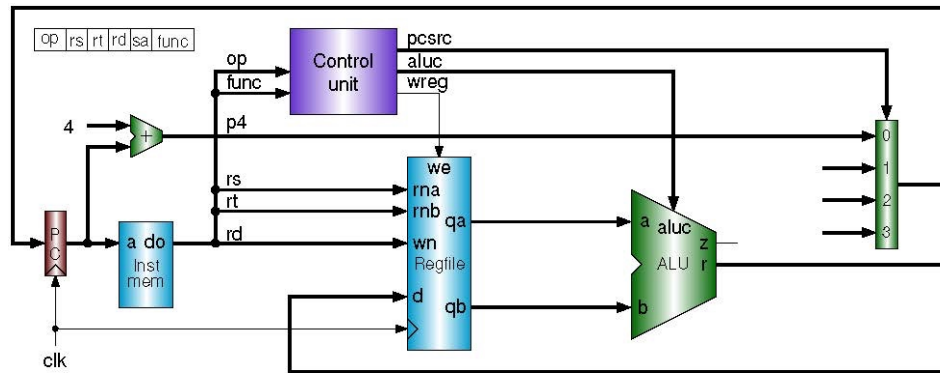
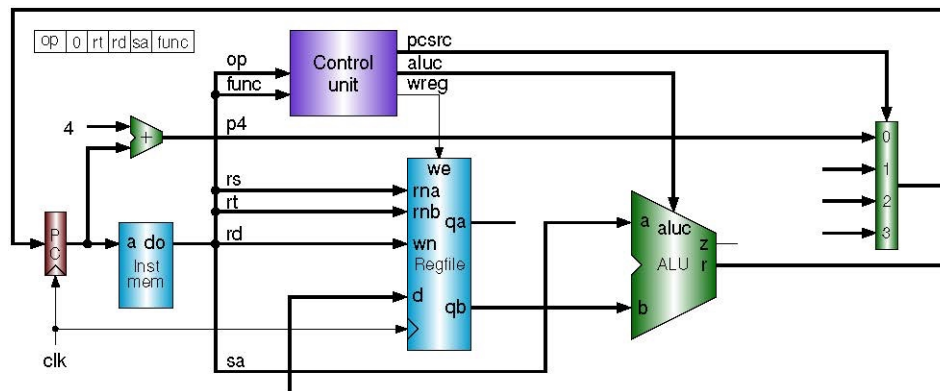
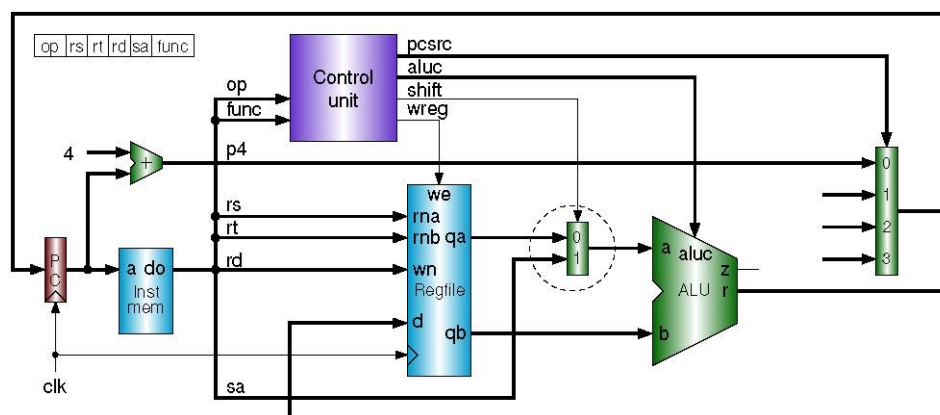

Figure 2 Block diagram for R-format arithmetic and logic instructions
Figure 3 Block diagram for R-format shift instructions
Figure 4 Block diagram for R-format using a multiplexer for ALU A-input selection
Figure 2 shows the design required for executing the R-type instructions (add, sub, and, or, xor). Two source operands are read from *qa* and *qb* of the register file based on *rs* and *rt*, respectively. The two inputs are sent to the ALU for calculation. The difference between these five instructions is only on the ALU's operations. A control unit generates the control signals. PC source (*pcsrc*) is the selection signal of the multiplexer. ALU control (*aluc*) controls the operations of ALU. Write register (*wreg*) is a write enable signal; if *wreg* is '1', the result calculated by the ALU will be written to the register *rd* of the register file. Figure 3 shows the design required for executing the R-type instructions (*sll*, *srl*). Different from Figure 2, the input of the ALU in Figure 3 is the 5-bit shift amount (*sa*). The high 27 bits of ALU's input 'a' can be any value which will be ignored by the shift operations. The 'rs' field is not used. We use a multiplexer to select 'sa' or 'qa' of the register file based on the instruction as shown in Figure 4.
8. Write a Verilog code that implement the following instructions using the design shown in Figure 4.